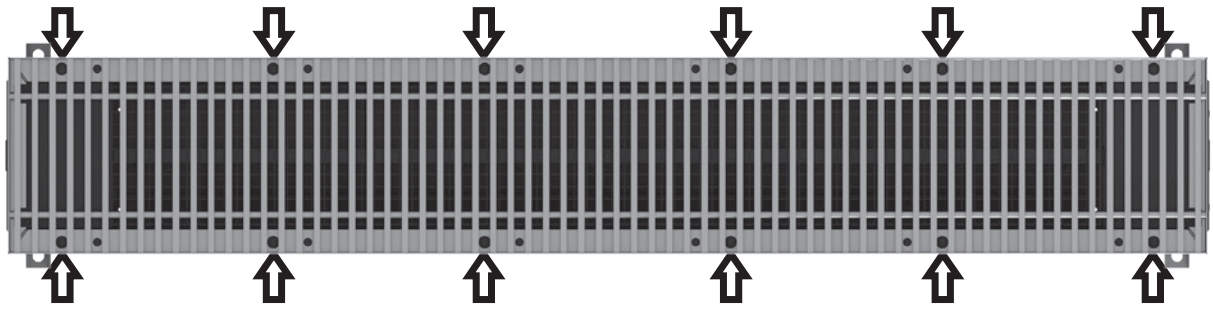

Figure 6D: Attachment for grille assembly
4. Place unit on frame in intended location, secure to frame via mounting holes provided. Reference Fig. 6D for hole locations.